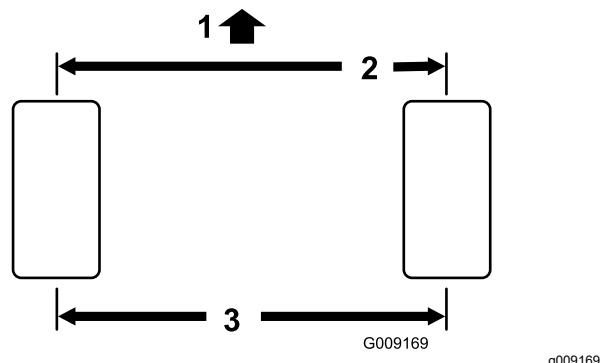

Figure 68
2. Measure the center-to-center distance (at axle height) at the front and rear of the steering tires (Figure 68).